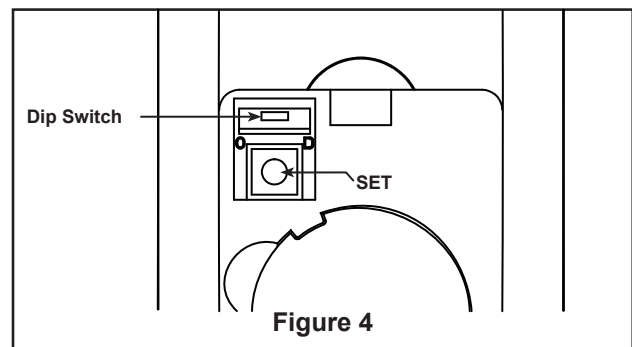

Figure 4
6. **Remote Control Setting and Speed (RPM) Setting Process : (Figure 4)**